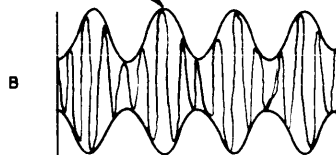

Figure 6-6. Scope Picture, Noise Silencer Alignment
8.	Connect sensitive scope across 50 ohm dummy load at J1312; carefully adjust C1231 for a notch at crest of modulated signal as shown in figure 6-6, A .
9.	Adjust C1231 until notch just disappears as shown in figure 6-6, B .